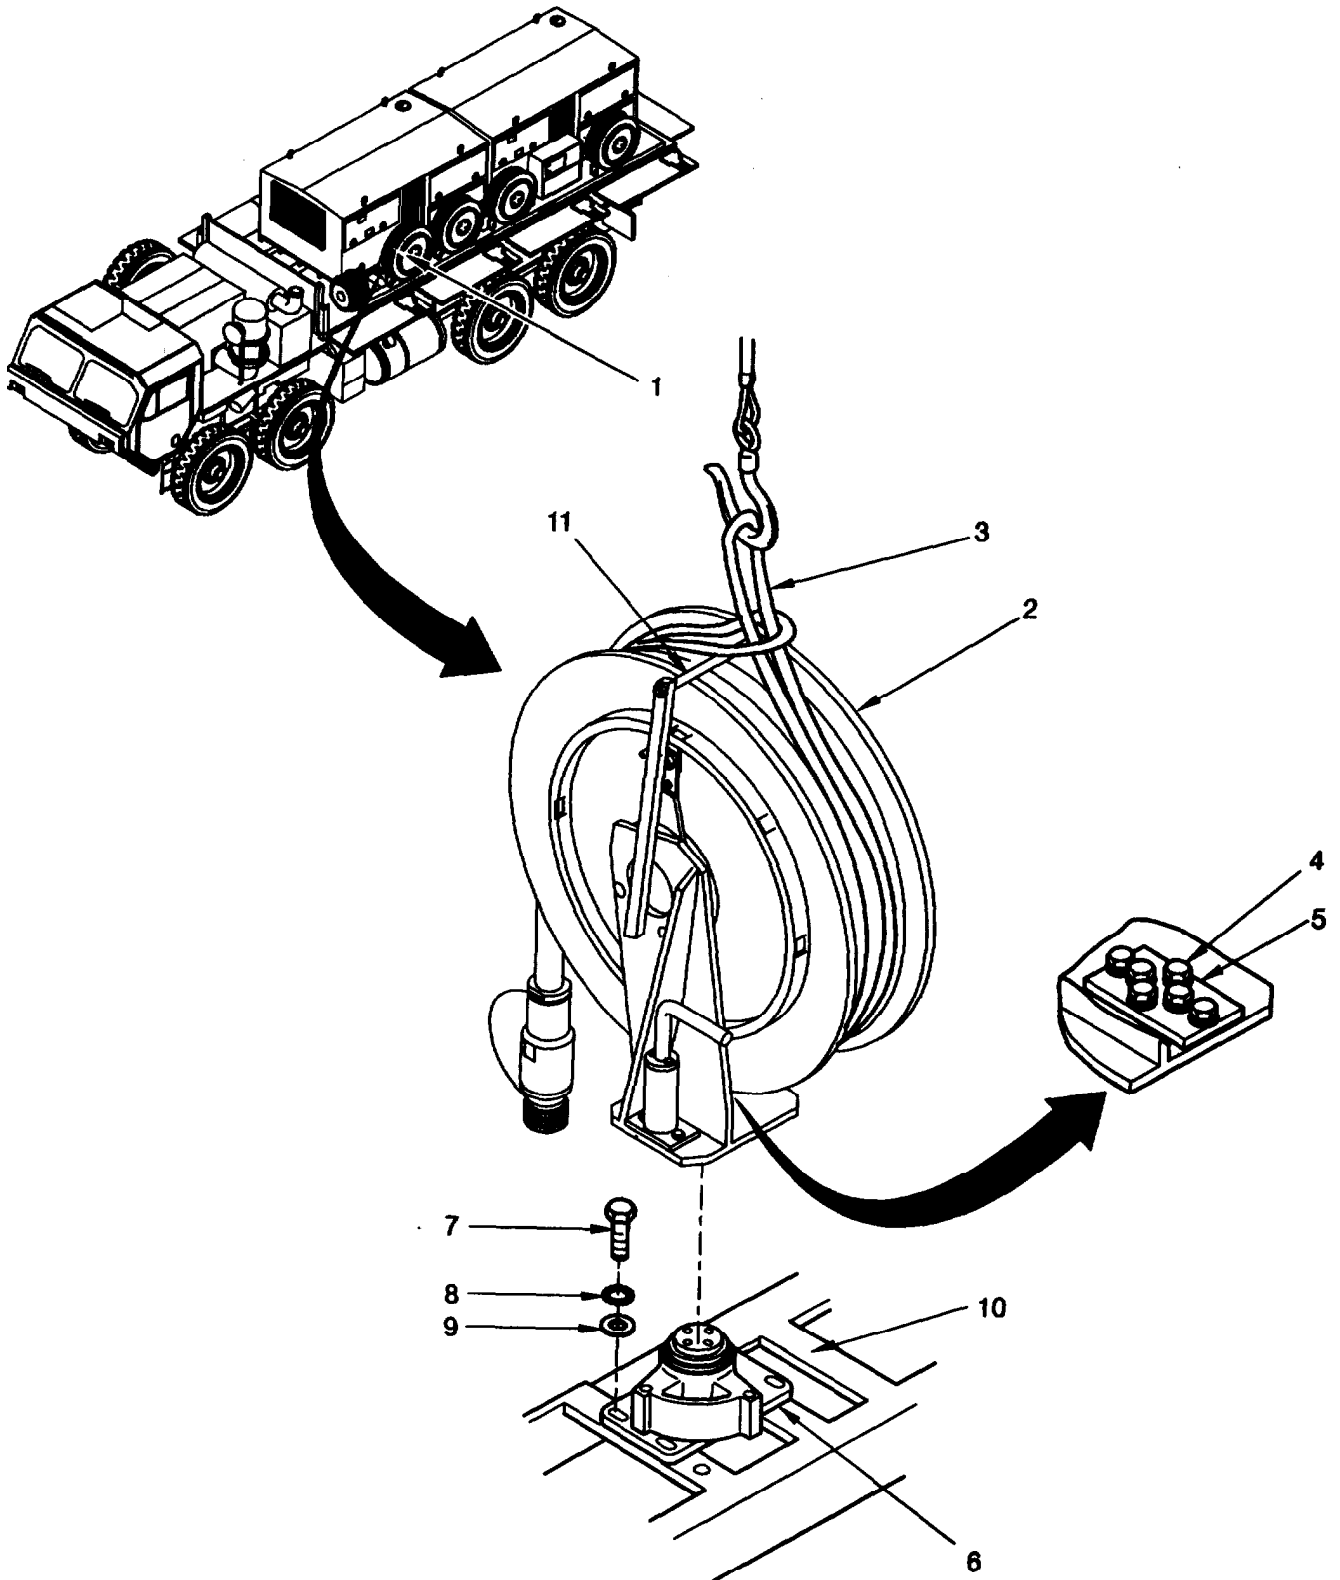

Figure 4-14 Power Cable Drum Mount.
- a. Swing cable drum (1, figure 4-14) forward into operating position and lock in place.